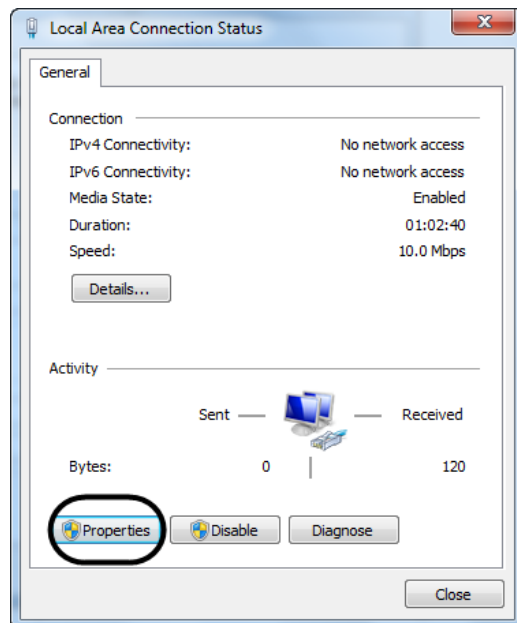

Figure 23
5. In the **Local Area Connection Status** dialog box, click the **Properties** button (Figure 23).